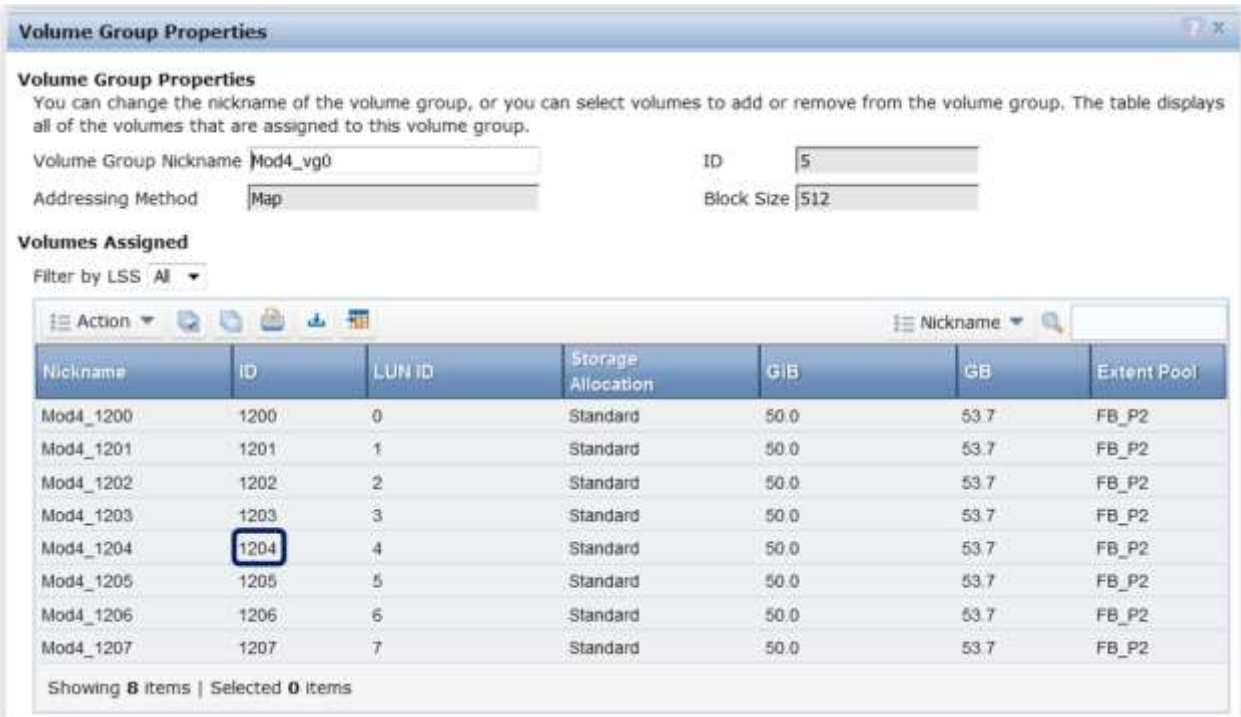

Figure 21: DS8000's Volume Group Properties showing LSS and Volume ID
3. Ensure the LSS and Volume ID on the DS8000, shown in Figure 21: DS8000's Volume Group Properties showing LSS and Volume ID, matches the last four digits of the Unique Device Identifier on the Discover Storage Resources panel, shown in Figure 22: Unified Resource Manager's Discover Storage Resources showing Unique Device Identifier.